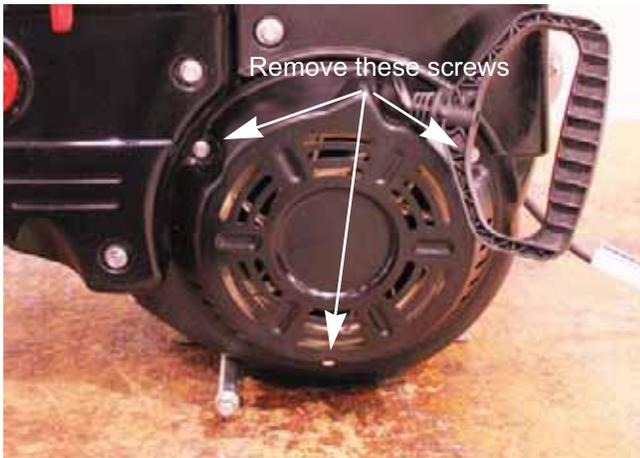

Figure 6.1
1. Remove the three nuts that secure the recoil assembly to the engine using a 8mm wrench. See Figure 6.1.